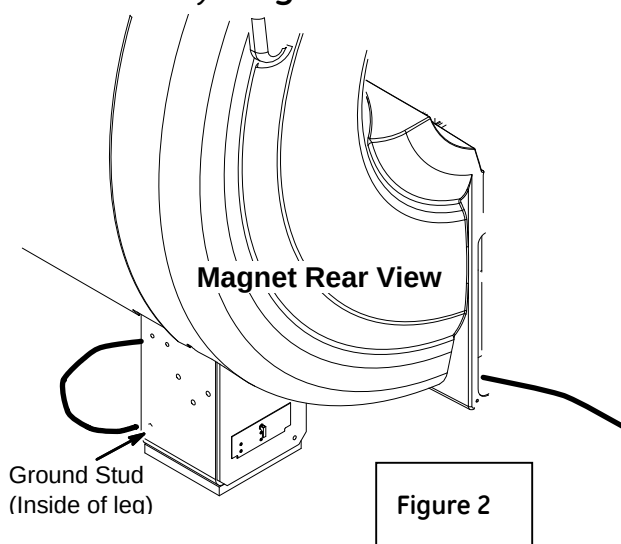

Figure 2
- B. Reuse, and reroute if necessary, the existing ground cable and connect to ground stud on inside of right rear magnet leg on the side opposite of the SRI/PAC assembly. **(Fig 2)**